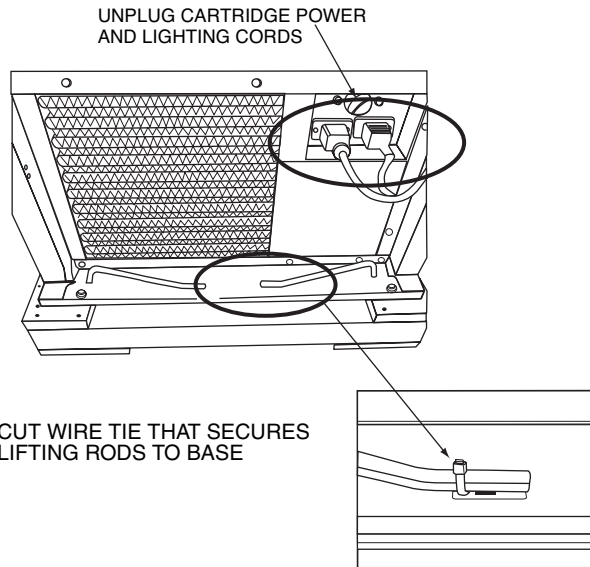

FIGURE 2 — PREPARE CARTRIDGE FOR REMOVAL
3. Unplug the power supply and lighting supply cords located in the front of the cartridge (Figure 2).
4. Using a pair of wire cutters, cut wire tie that secures lifting rods at center of front base rail. (See Figure 2.)